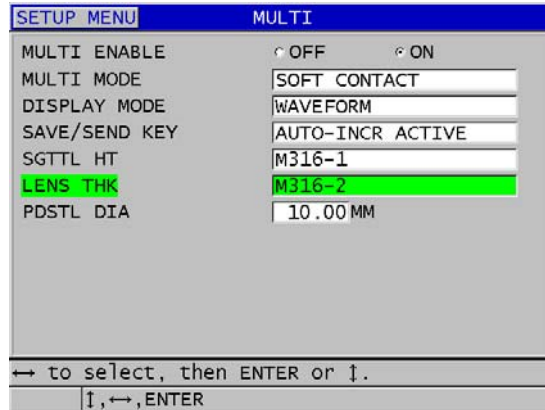

Figure 7-9 Setting multi-measurement parameters in the soft contact mode
5. In the **MULTI** screen (see Figure 7-9 on page 104):